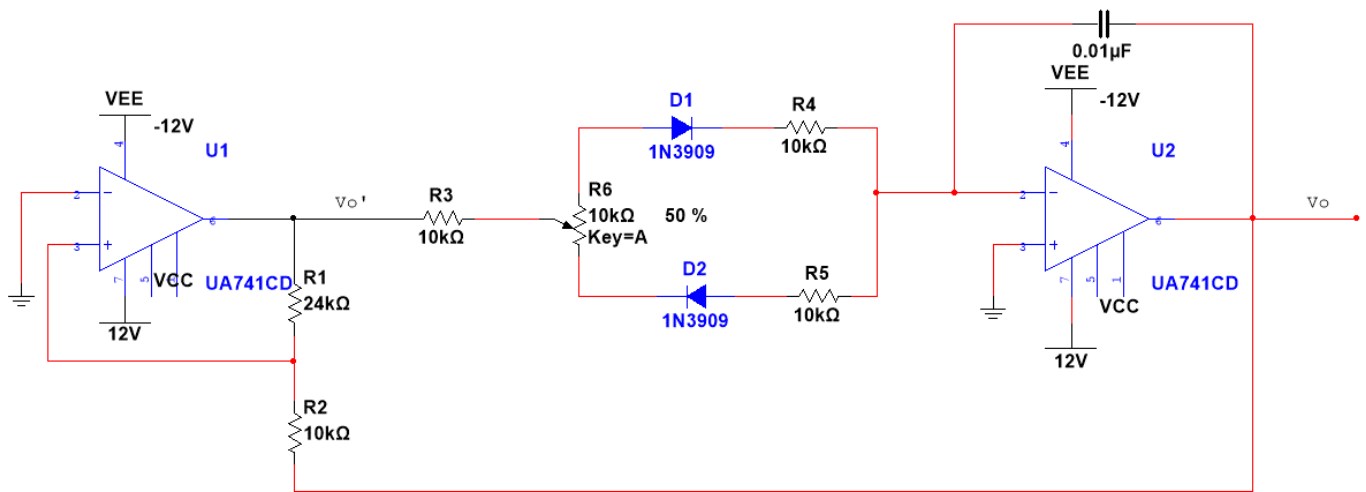

Fig 7.1: Op-Amp Square wave and triangular wave generator
1. Setup the circuit as shown in Figure 7.1.